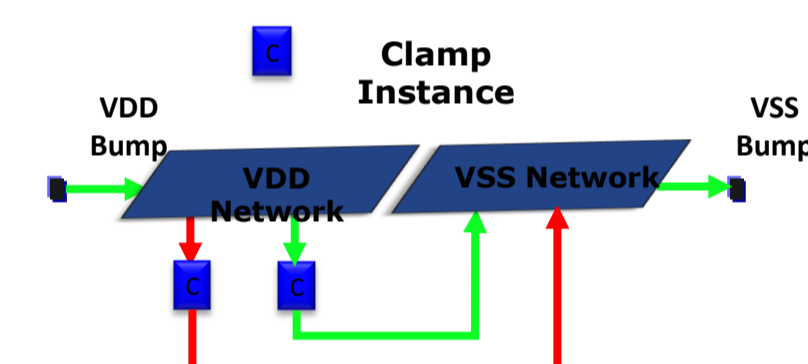

Figure 1 – HBM/MM ESD Check
- HBM Static ESD verifier computes the effective resistance from bump-to-clamp-to-bump as shown in figure 1. Both individual path resistance as well as effective parallel path resistance is calculated.